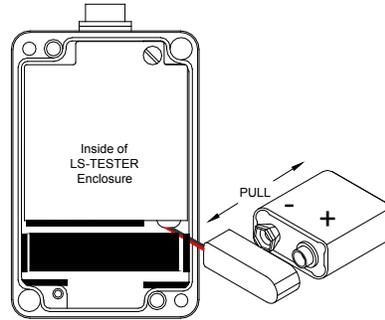

Figure 2: Remove Battery
- If replacing an existing battery, remove the battery by lifting it out of the enclosure and disconnecting it from the 9V battery snap connector. Reference Figure 2.